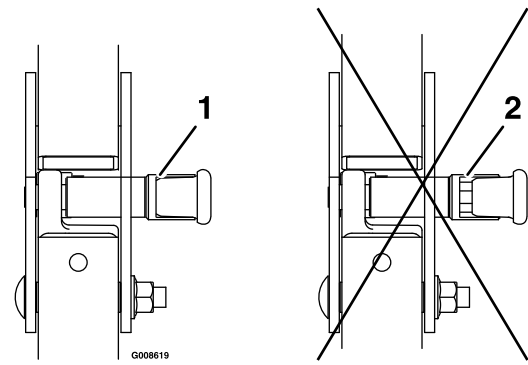

Figure 4
4. Push on the roll bar and ensure that both pins are engaged (Figure 4).